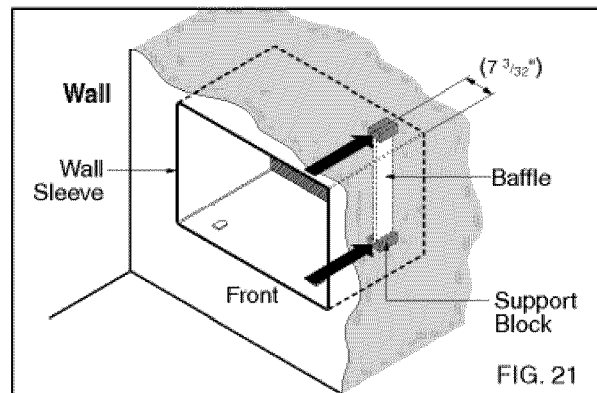

FIG. 21
- 6 Remove the backing from the support blocks and attach them to the inside of the wall sleeve as shown FIG 21. Slide the baffle into slots of the support blocks